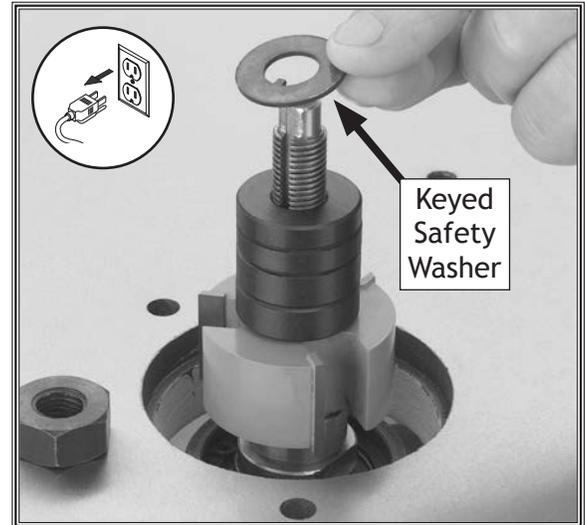

Figure 27. Placing keyed safety washer.
3. Install keyed safety washer and nut, as shown in Figure 27.